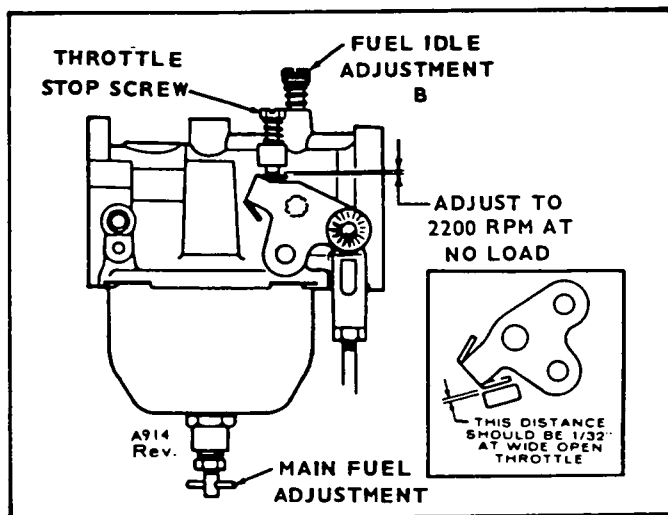

FIGURE 4. CARBURETOR ADJUSTMENTS
The carburetor (Figure 4) has a main fuel (high speed) adjustment (needle A) and a fuel idle adjustment (needle B). The main adjustment (needle A) affects operation under heavy load conditions. Idle adjustment affects operation at light or no load. Under normal circumstances, factory carburetor adjustments should not be disturbed. If the adjustments have been disturbed, turn needles off their seats 1 to 1-1/2 turns to permit starting, then readjust them for smooth operation.
2200 RPM setting (Figure 4).
**Linkage:** The engine starts at wide open throttle. The length of the linkage connecting the governor arm to the throttle arm is adjusted by rotating the ball joint. Adjust length so that with the engine stopped and tension on the governor spring, the lower stop on the carburetor throttle lever is  $1/32''$  from stop pin. (Figure 4). This setting allows immediate control by the governor after starting and synchronizes travel of the governor arm and the throttle shaft.